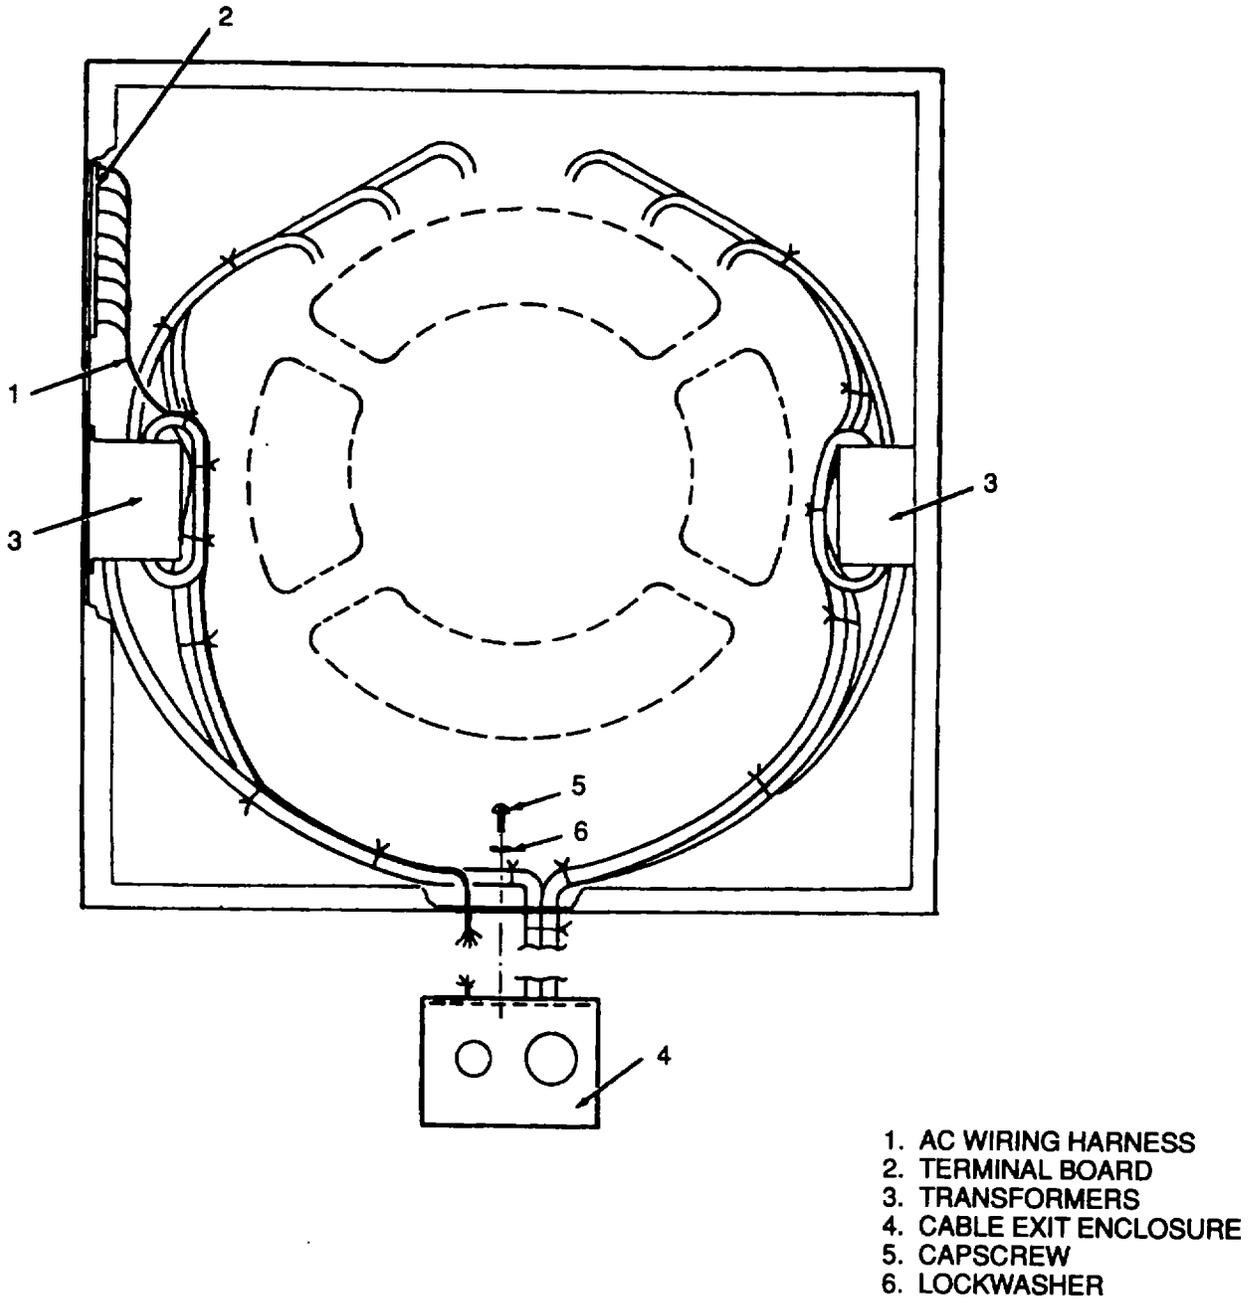
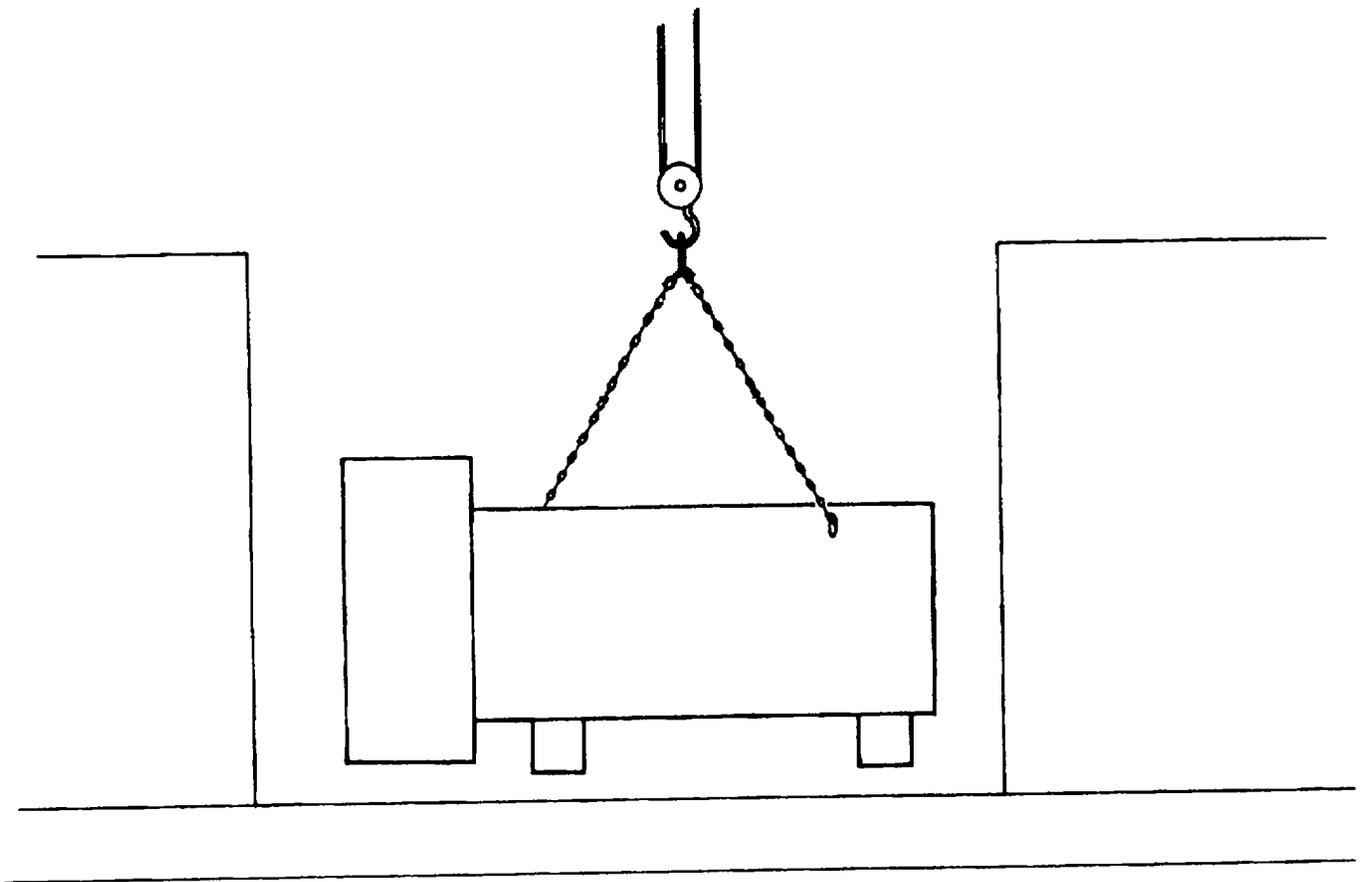

Figure 2-8. Conduit Box Assembly
Figure 2-9. Generator G1, Lifting
- (5) Remove capscrews (5, Figure 2-8) and lockwashers (6), and remove generator cable exit enclosure (4).
- (6) Disconnect cannon plug on battery charger BC1.
- (7) Rig overhead crane or hoist with minimum load capacity of 6,000 pounds (2722 K) and minimum height clearance of 150 inches (3810 mm). See Figure 2-9 and connect the lifting rig to lifting lugs on generator housing. Take up slack from hoist but do not lift generator at this time.
- (22) Rig the generator for lifting with a hoist or overhead crane rated for a minimum of 6,000 pounds (2722 kg) and a minimum height clearance of 150 inches (3816 mm) (See Figure 2-9). There are two lifting brackets welded to the top of the generator. Use locking lifting hooks on the brackets and raise the hoist to remove slack from the slings and lifting chains, but do not lift generator at this time.
- (37) Check the exciter air gap again in accordance with step (35), above.
- (38) Install generator cable exit enclosure (4, Figure 2-8) with hexagon head capscrews (5) and lockwashers (6).
- (1) Disconnect load cables from output terminals, place on safety stands and tag output terminal to ensure generator set is not connected to load bus during generator removal.
- (2) Set maintenance lockout switch to MAINTENANCE and safety tag.
- (3) Disconnect cable from UTILITY POWER receptacle and safety tag UTILITY POWER receptacle to ensure cable is not connected during generator removal.
- (4) Remove batteries in accordance with paragraph 3-9 of the Operator and Organizational Maintenance Manual.
- (5) Remove the conduit box cover assembly from the conduit box assembly. See Figure 2-7. Remove hexagon head capscrews (5, Figure 2-8) and lockwashers (6) securing generator cable exit enclosure (4) to generator cabinet.
- (10) Disconnect the ac wiring harness (1, Figure 2-8) from the terminal board (2) and the two transformers (3) located in the conduit box assembly. Coil up the wiring harness and lay it in the cable exit enclosure (4) located underneath the conduit box assembly.
- (11) Remove battery charger in accordance with paragraph 4-20 of the Operator and Organizational Maintenance Manual.
- (12) Remove the ac and dc lights and conduits above the generator in accordance with paragraph and 4-35 of the Operator and Organizational Maintenance Manual.